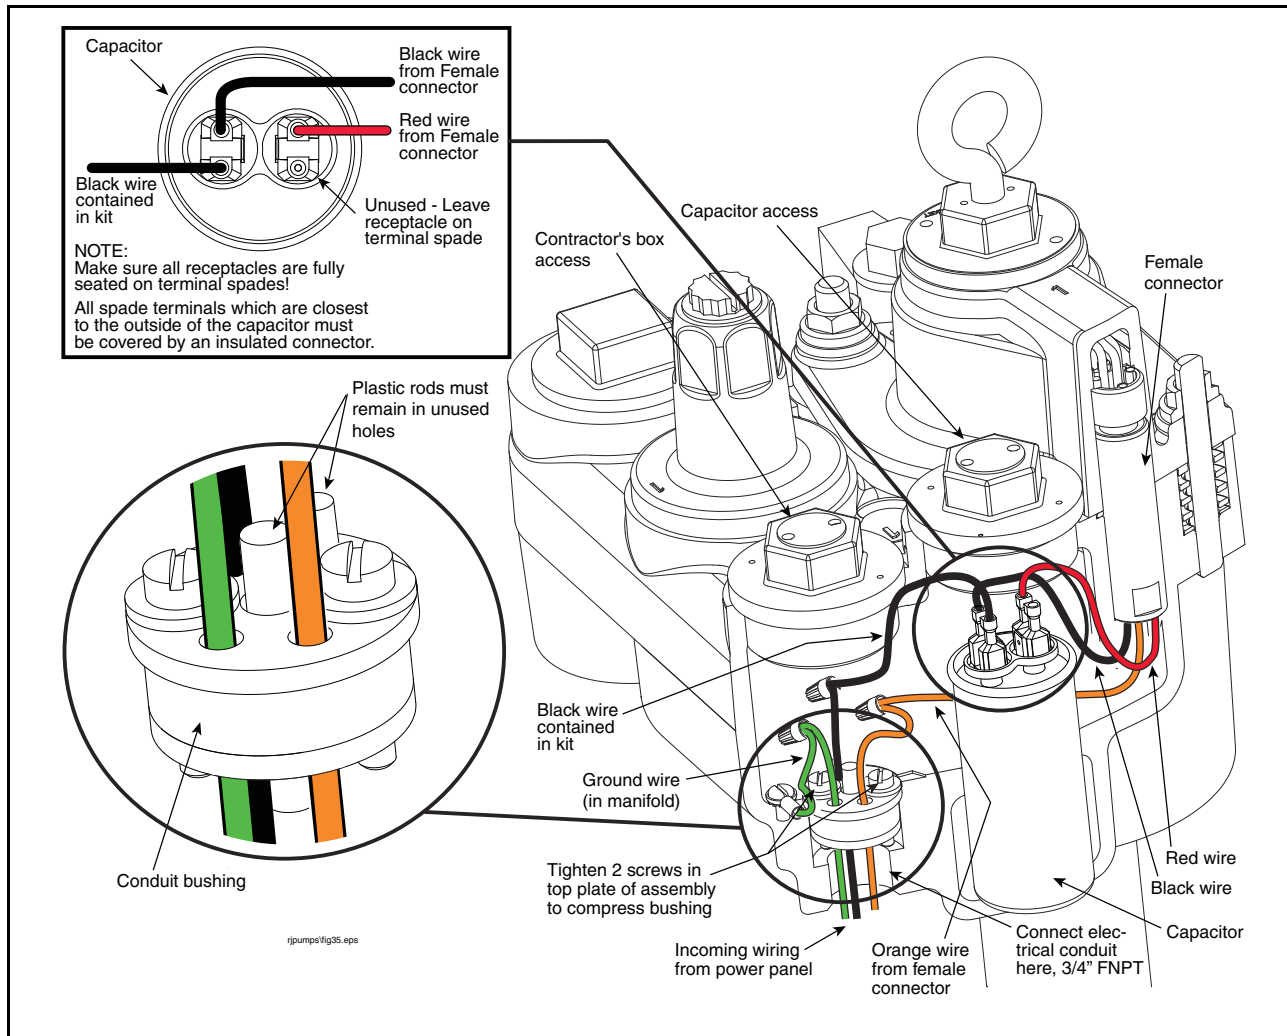
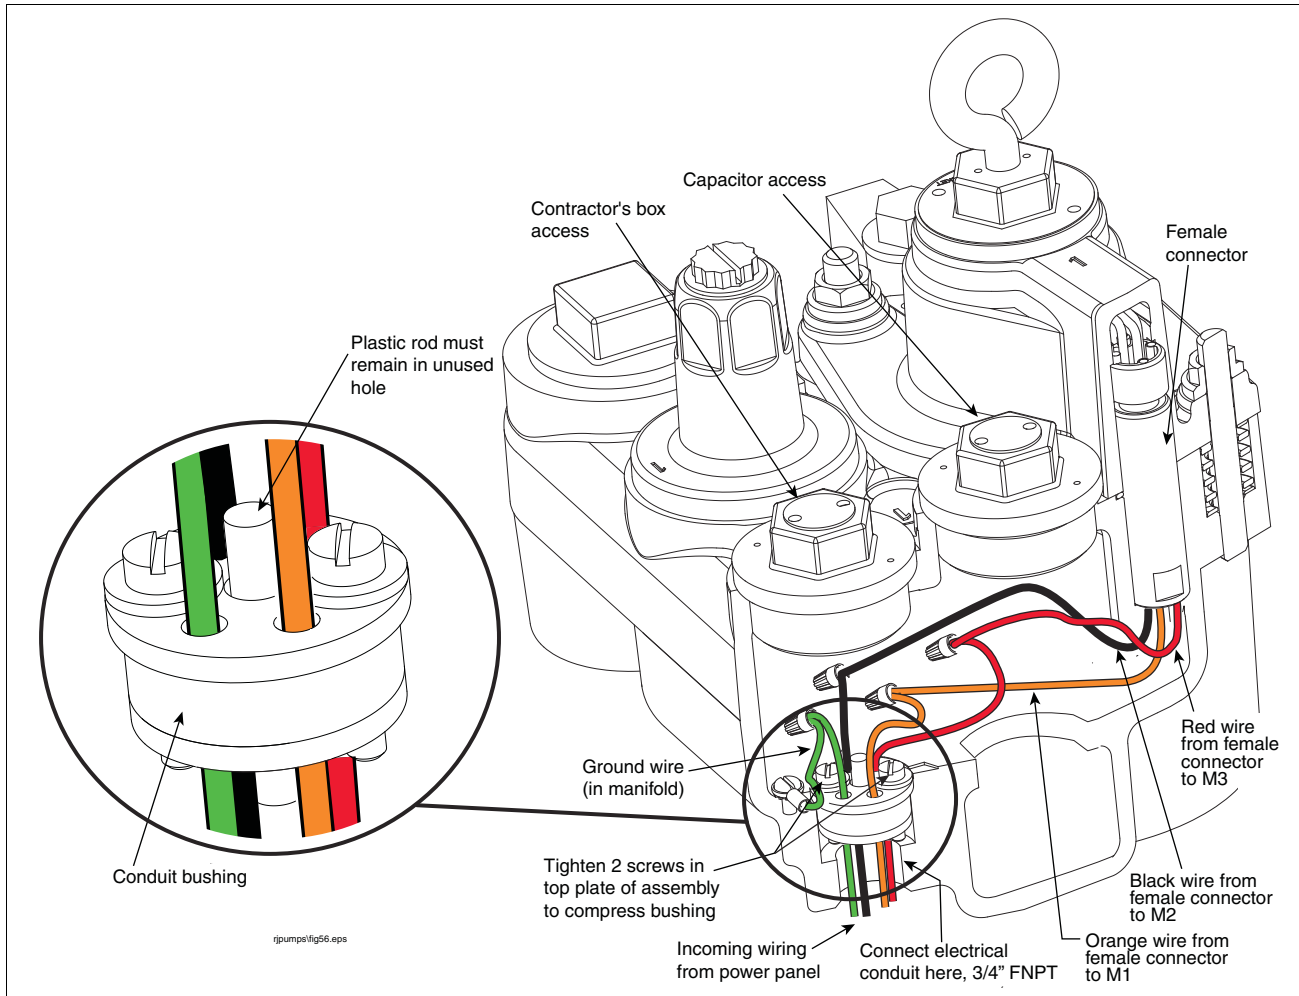

Figure 17. Power Wiring Enters Through Compression Bushing - Single Phase Example Shown
Figure 27. Power Wiring Enters Through Compression Bushing - Three Phase Example Shown
1. Connect electrical conduit approved fittings to power wiring entry at base of manifold's contractors box (see cutaway example in Figure 17 for single phase power wiring or Figure 27 for three phase power wiring).
2. Loosen the two screws in the compression bushing just enough so you can remove the bushing from its socket in the bottom of the manifold's contractor box (see Figure 17). Continue lifting up the bushing until it is accessible. Notice that the top plate of the bushing assembly (facing into the manifold) has a larger diameter than the bottom plate, and that there are two open holes and three holes with plastic rod inserts. The plastic inserts seal the bushing and must remain in any unused hole. For example, bringing three wires from the power panel, use the two empty holes and remove and discard one of the two smaller diameter plastic inserts for the
See Figure 27 for Steps 1 - 5.